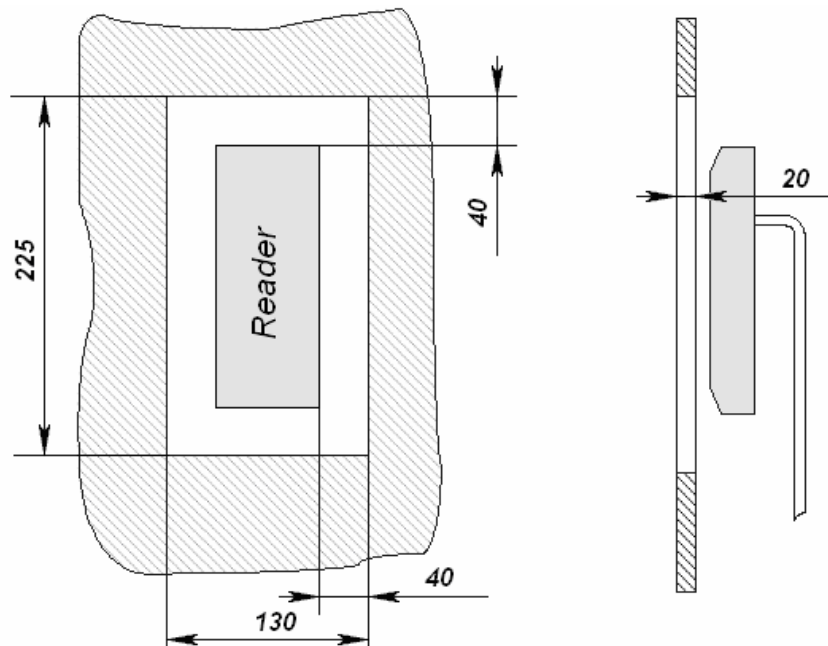

Figure 2 – Reader installation behind the metal surface
- If the reader is mounted behind metal surface it is necessary to cut out the window in it and install the reader opposite and equidistant to window edges (Ref. Fig. 2) provided that window measures are min. 225×130 mm. The window can be covered with non-metal panel (for ex. plastic) whilst reader can be recessed inside the window at max. 20 mm distance from metal surface front side – at this mounting variant the code reading distance reduces to 30 – 50%.